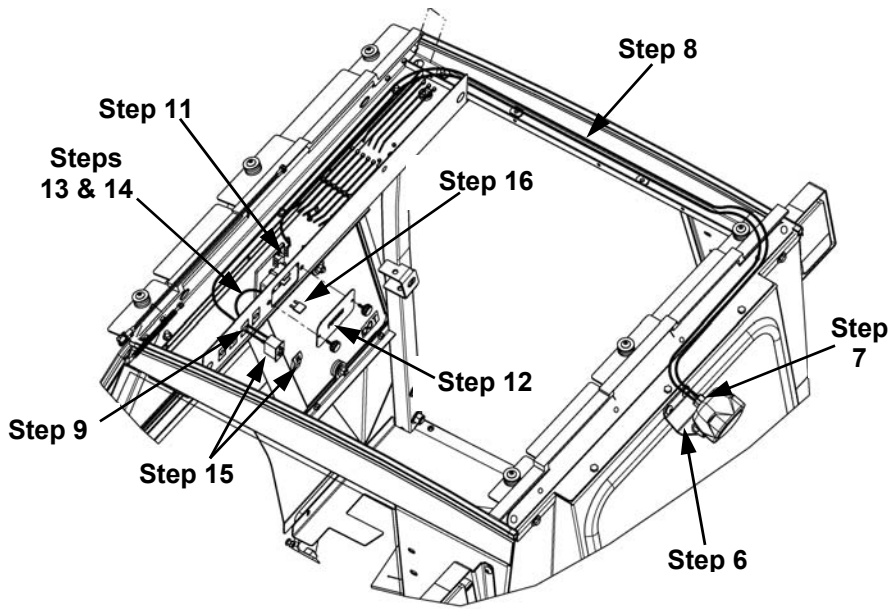

Figure 4
7. Locate wire harness with light connector end (Item 10). Connect light end of wire harness to light (Figure 4).
9. Select an empty location on switch panel for rocker switch (Item 4). Remove rectangular knockout (Figure 4).
14. Connect straight connector of wire through switch knockout hole and connect to rocker switch terminal 2 (Figures 4 & 6).
15. Attach switch actuator (Item 5) to rocker switch (Item 4) then install switch into knockout (Figure 4).